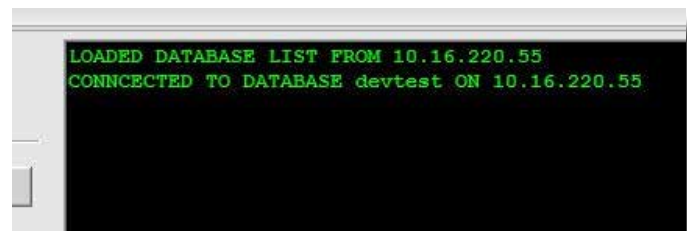

Figure 26: Plant Editor - Output Screen
1. The first page contains the tools to connect the app to a database. It also has a black screen that shows a history of actions taken in the app in green text, and errors in red text (Figure 26).